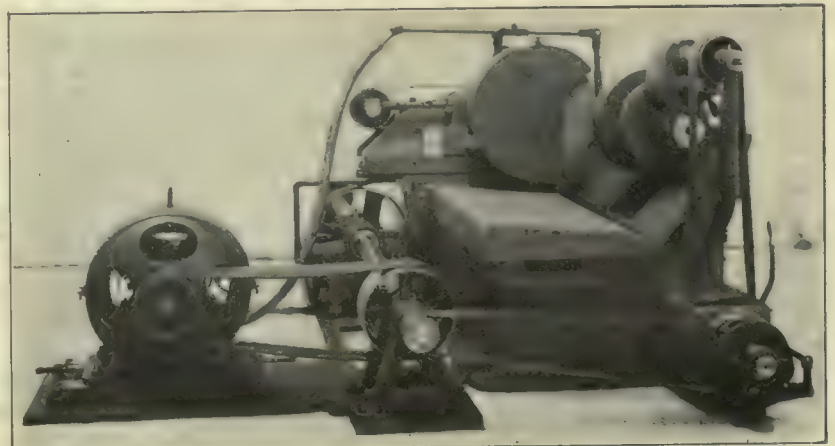

Fig. 7.—End View Landis Grinder, Motor Drive.
Fig. 7 shows the arrangement of the electric drive as well as showing an end view of the machine when provided with a gap for locomotive work.
The work revolving and traversing mechanism are driven from the gear box at the end to which power is delivered by the belt from the main shaft as is also shown by Fig. 7.
can be placed in the machine. It is arranged to give five changes of speed to the work, these being made mechanically by the movement of a single lever, and by shifting a back gear in the gear box at the end of the machine seen in view Fig. 7, another range of five speeds is obtained, making a total of ten work speeds. These speeds are indicated on a dial as will be seen by Fig. 4 and
Fig. 7 shows how the machine operates from the point on, the pattern describing an arc.
- Fig. 7.—Describing Arc, Farwell Molding Machine.